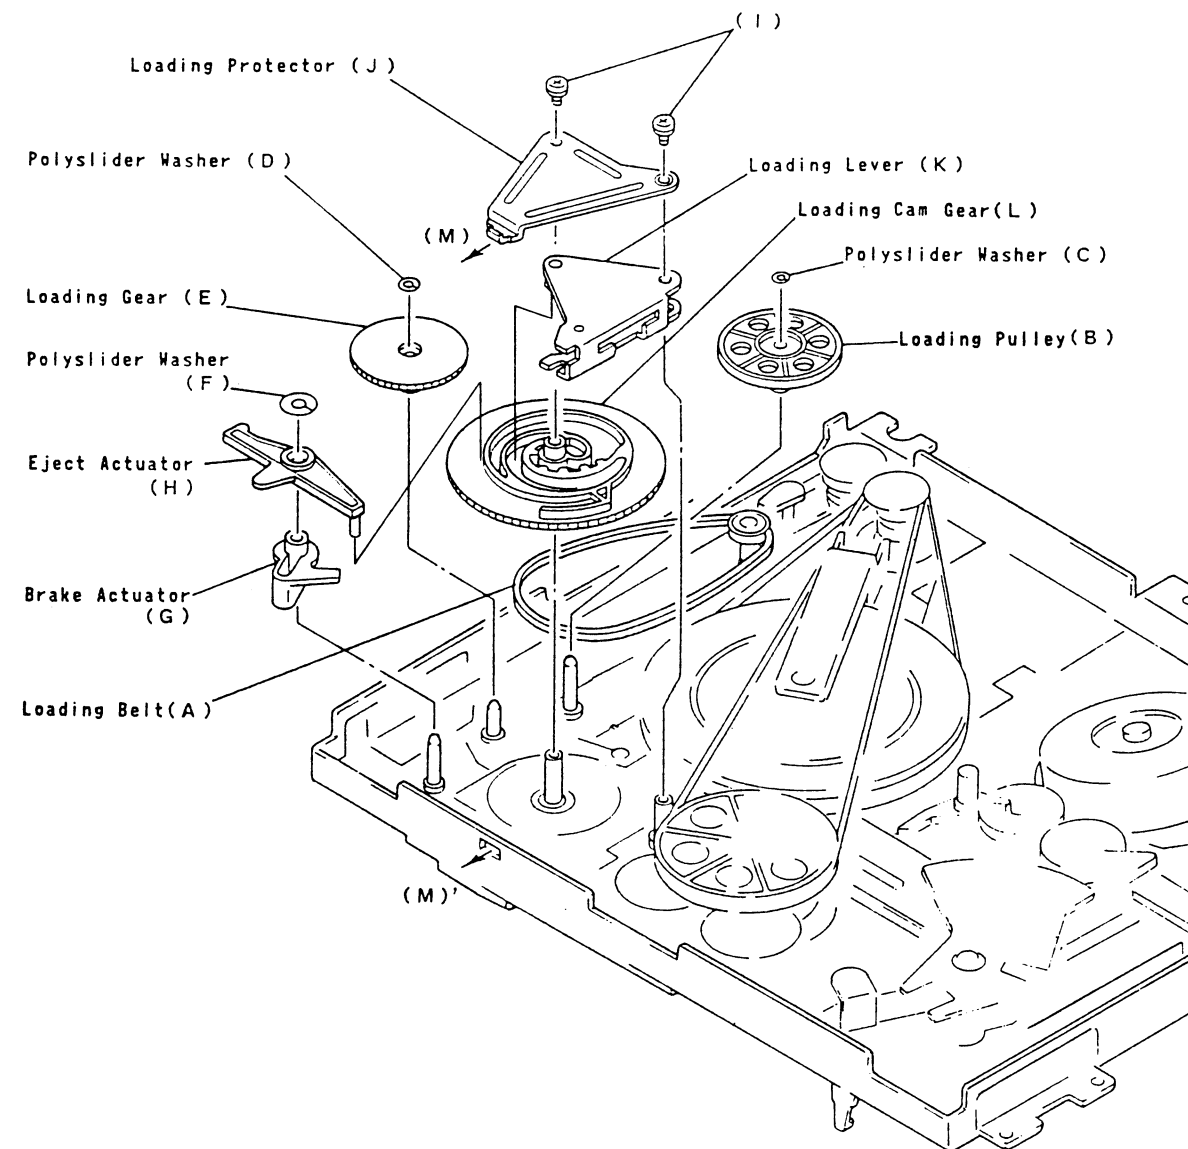

Fig. 2-12
- (1) Take off the Tape Loading Belt (E) from the Tape Loading Motor's Pulley (I).
- (2) Remove 2 screws (F), and take off the Tape Loading Motor (G).
(12) Loading Cam Gear (Fig. 2-12)